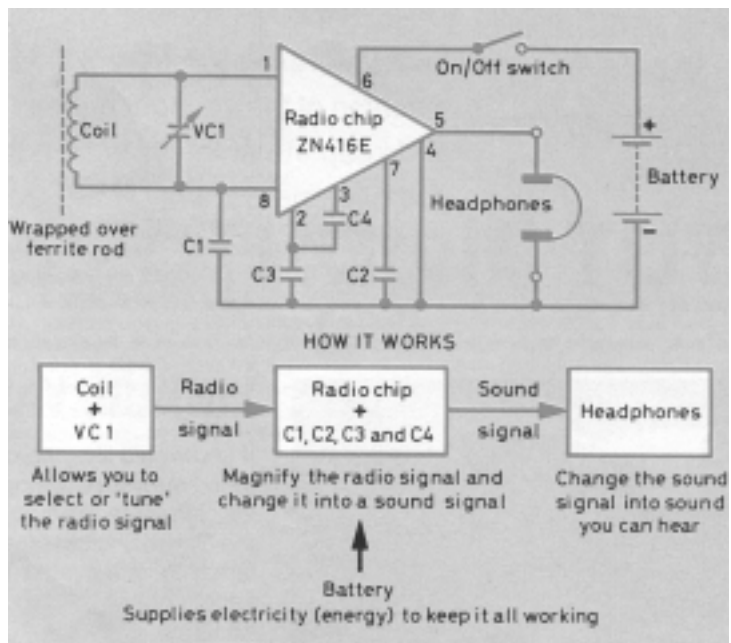

Figure 1 Circuit and block diagrams of the radio
This design came from the Norfolk Amateur Radio Club, and enables you to build a simple Amplitude Modulation (AM) receiver for frequencies between 600 kHz and 1600 kHz. It should take you around 2 hours to build, and can be used with Walkman-type earpieces. **Figure 1** shows the circuit diagram.